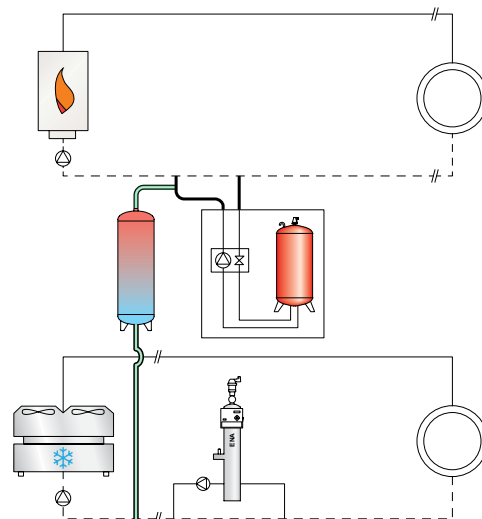

Figure 3
- The Flamcomat pump expansion automat has two system connections due to the deaeration function. This automat can best be placed in the central heating with both connections in the return line or one of the connections in the pressure equalisation line (see figure 3). Ensure the connection diameter of the automat is at least the same as the diameter of the equalisation line. Additionally, an ENA vacuum degasser can be placed in the chilled water system if necessary.